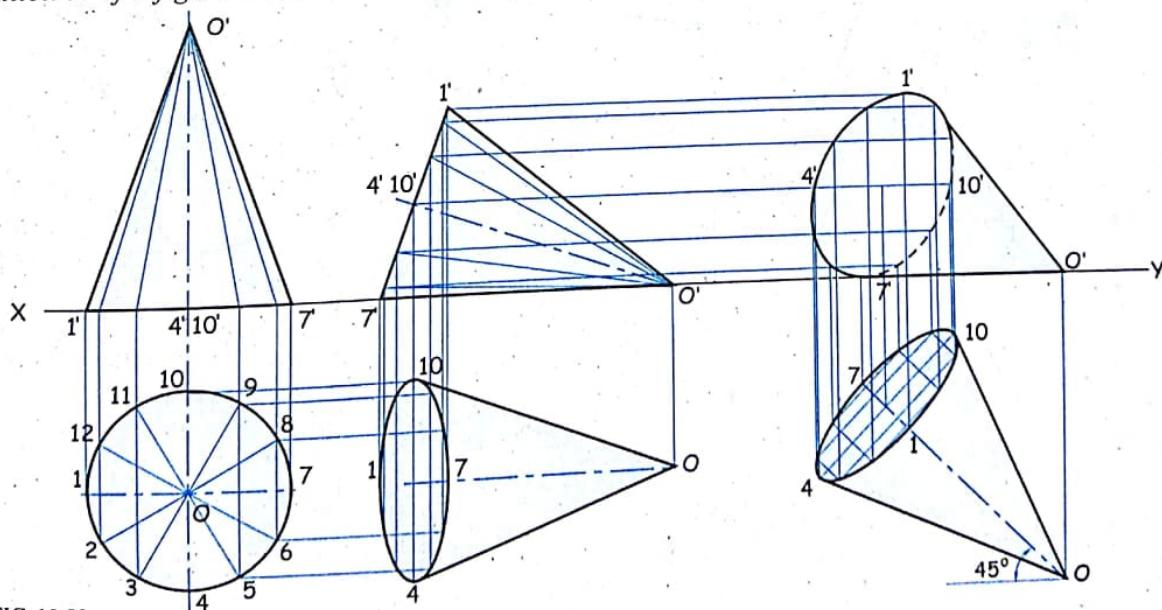

FIG. 10.83
**Solution :** Refer figure 10.83. It is self explanatory.